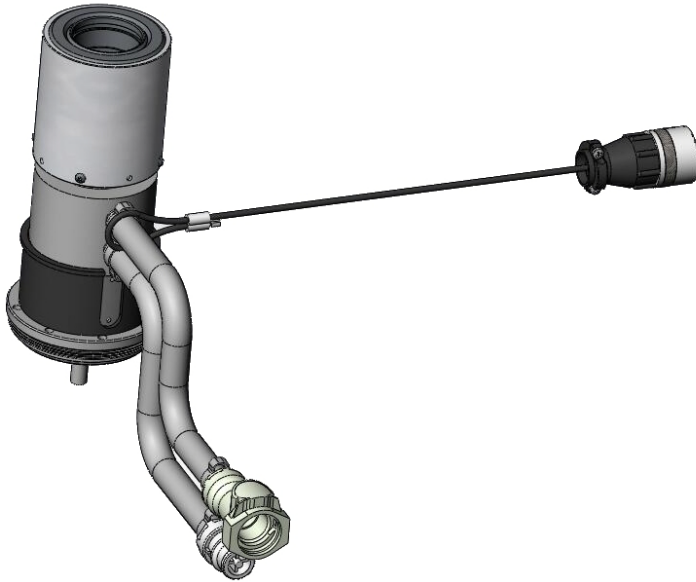
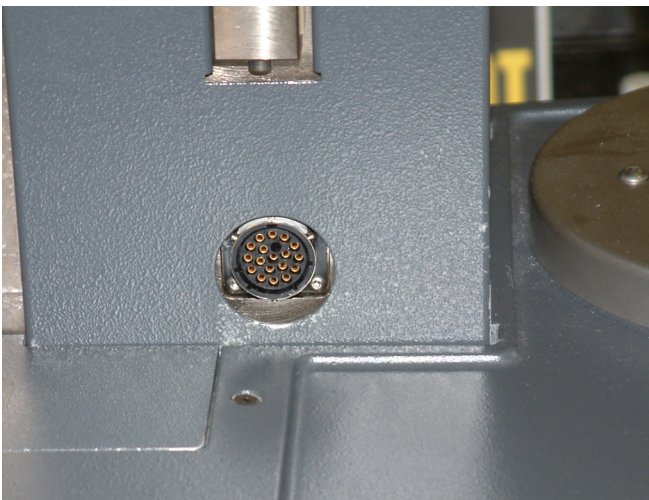

Figure 4 Sealed Fluid Bath with bath accessory cable
Figure 5 Lower accessory connector on ARES-G2
- 8 If installing the bath onto an ARES-G2, connect the bath accessory cable (shown in Figure 4) into the lower accessory connector (shown in Figure 5) on the left side of the ARES-G2.